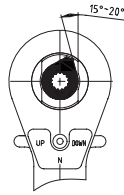

fig.3A
6. Put on stop knob at 15 degree angle. (see fig.3A)